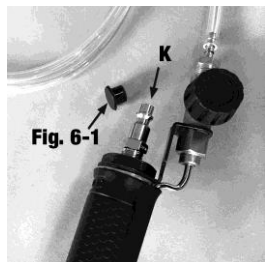

Fig. 6
7. Remove the air inlet protective cap (Fig. 6-1) from the air inlet (C). Manually screw the male plug (Q) into the air inlet. Connect air hose (not provided) to the male plug (Fig. 6).
8. Use thread sealant tape (not provided) on the outer threads of the male plug (Q) and tighten the plug to the air inlet with a wrench (not provided) for airtight connection. Do not overtighten.